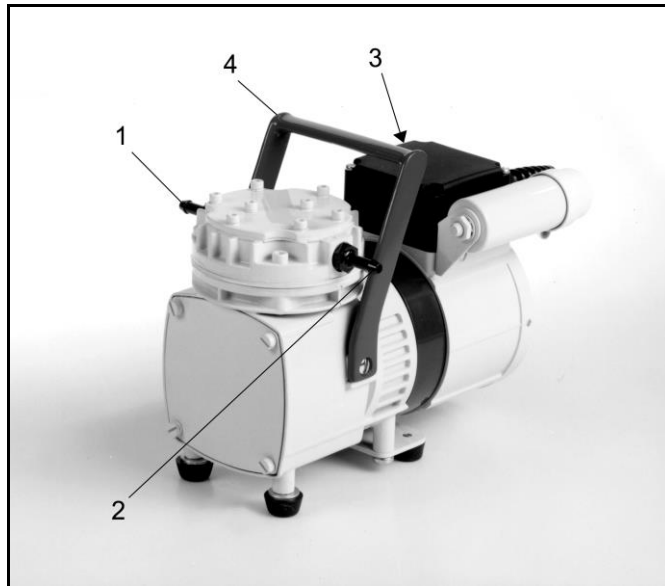

Fig. 2: Diaphragm Pump N 022 AN.18
- ➔ Switch on pump with mains switch (see fig. 2, 3 or 4, position 3).
- ➔ Switch off pump with mains switch (see fig. 2, 3 or 4, position 3).